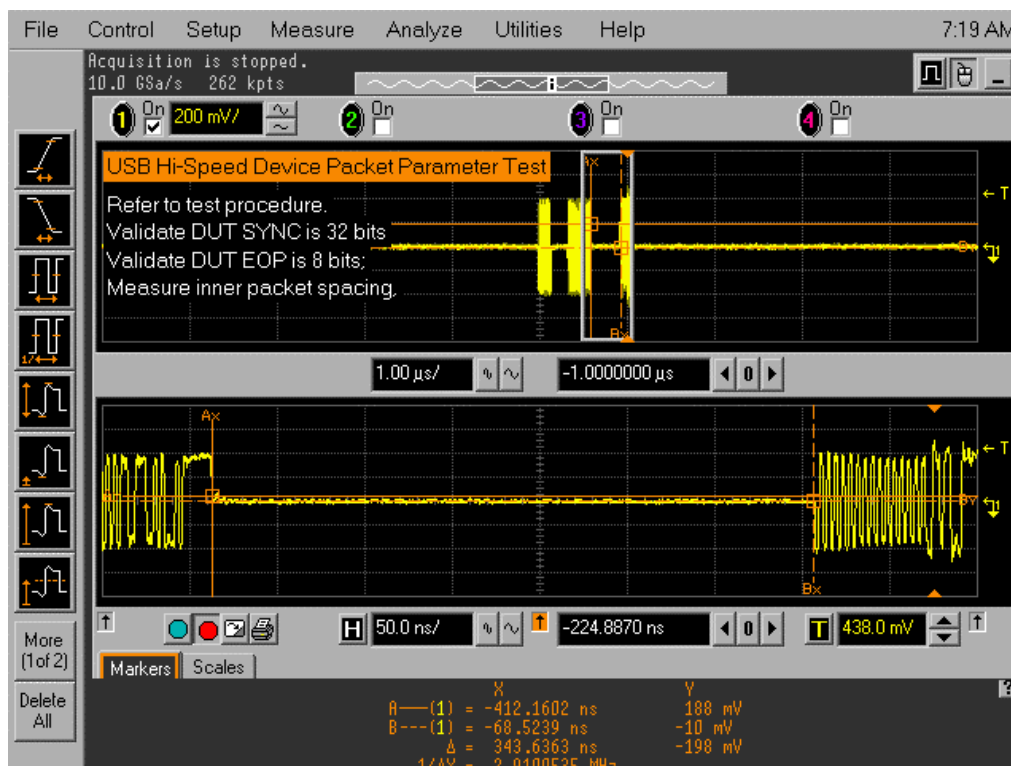

Figure 13. Device Inter-packet Gap
11. Measure the inter-packet gap between the second (from host) and the third (from device in respond to the host's) packets. The second (of lower amplitude) is from the host and the third (of higher amplitude) is a device's response, see Figure 13.